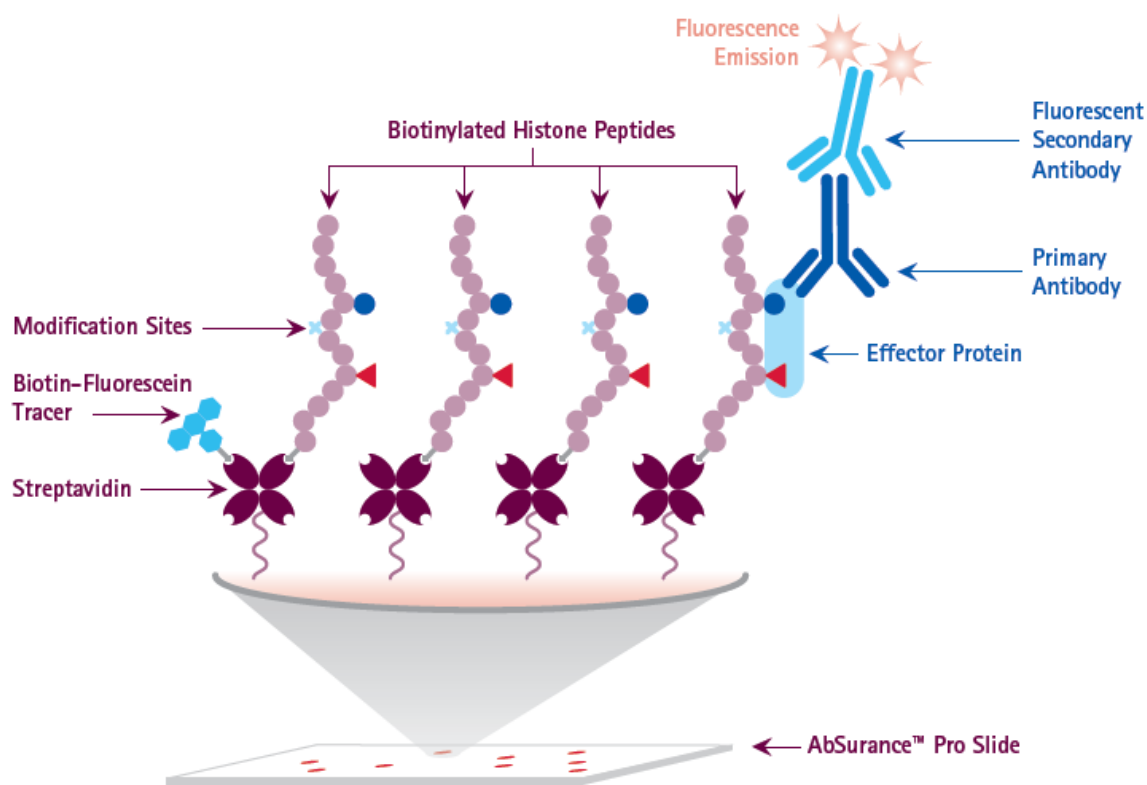
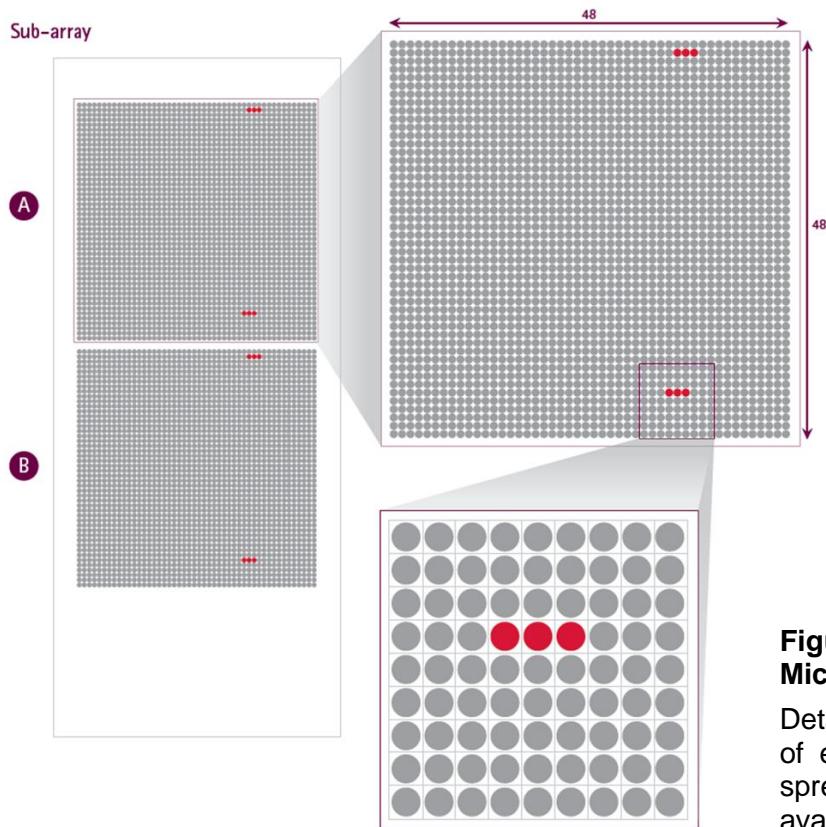
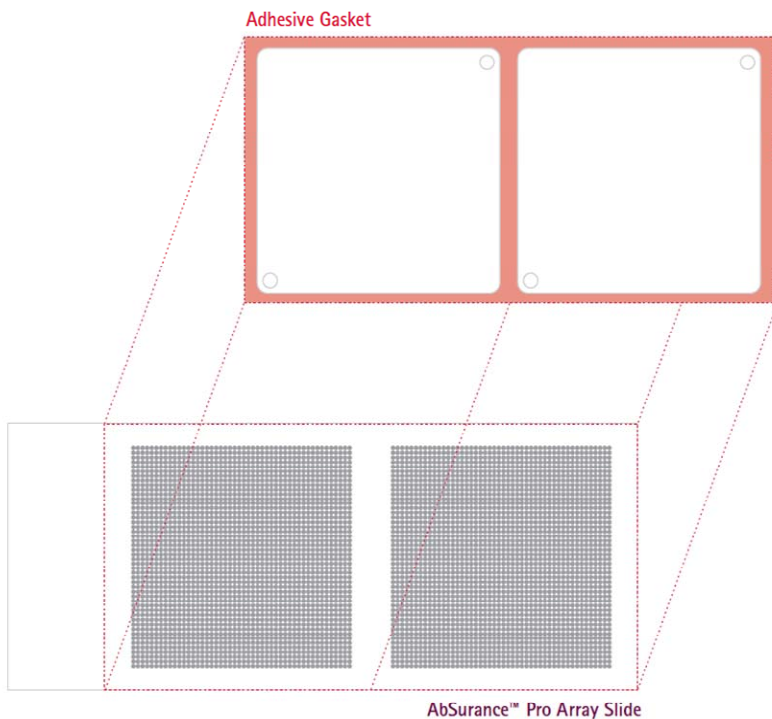

Figure 1. AbSurance Pro Histone Peptide Microarray slide design
Figure 2. AbSurance Pro Histone Peptide Microarray glass slide design.
Figure 3. Gasket Placement on AbSurance Pro Histone Peptide Microarray
The AbSurance™ Pro Histone Peptide Microarray is a microarray containing peptides corresponding to sequences of all four core histone subunits (H2A, H2B, H3, H4) plus select variants). Over 260 histone peptides representing various post-translational modifications are present on the array as unmodified, singly modified as well as multiply modified sequences with up to six modifications per peptide. In addition, multiple peptides representing common protein epitope tags are also printed for use as controls for anti-epitope tag detection scenarios. With over 270 different peptide sequences, AbSurance Pro Microarrays are ideal for protein interaction analysis or histone antibody specificity screening using scanning densitometry or chemiluminescent detection (see figure 1).
The AbSurance Pro Histone Peptide Microarray is printed as two subarrays (see figure 2) with each peptide represented six times per subarray to ensure confident binding analysis and quantitation. This configuration enables analysis of up to two binding experiments per slide when using the provided two chamber adhesive gasket (see figure 3). Using this convenient format, side by side analysis of chromatin readers, writers, and erasers in the absence and presence of small molecules or other protein complex members can be assayed to elucidate substrate specificity and binding characteristics (see Figure 1). Alternatively, this array can be used for comprehensive analysis of histone antibody specificity. For a macroarray analysis of histone antibody specificity using single modification sites and a simple western blot like detection approach, the PVDF-FL membrane—based AbSurance™ Complete macroarray (cat# 16-668) is recommended.
Each AbSurance Pro Histone Peptide Microarray contains 270 different biotinylated peptides (approximately 20 amino acids in length) immobilized on a streptavidin-coated glass microscope slide. To ensure consistent printing and to allow normalization of interaction signals, all AbSurance Pro peptides are produced and spotted with a tracer dye (see figure 1). Details about these peptides, including their sequences can be found in the spreadsheet “AbSurance Pro Peptides.xlsx”. This file and other templates that facilitate data analysis can be downloaded from the AbSurance™ Pro product page on our company website.
Peptides are spotted on two identical sub-arrays (labeled A and B on Figure 2). Each peptide is spotted twice in groups of 3 within each sub-array (red dots on Figure 2). Thus each peptide is featured 12 times in defined positions across a single array slide that carries over 4,000 features. This format also mitigates spotting variability, local binding differences across the slide surface, and allows the user to statistically evaluate the quality of individual peptide: protein interactions.
2. Place an array slide on a clean surface with the slide logo facing up. If using the adhesive gasket, remove the backing from the gasket with forceps. Carefully align the edges of the gasket and glass slide, so both subarrays are separated by the chambers as shown in Figure 3. Please note that the two subarrays may not be visible. Careful placement of the gasket to the far right edge of the array, relative to the logo on the slide will ensure that both arrays are accessible to your solutions. To ensure a tight seal, press
2. Place an array slide on a clean surface with the slide logo facing up. If using the adhesive gasket, remove the backing from the gasket with forceps. Carefully align the edges of the gasket and glass slide, so both subarrays are separated by the chambers as shown in Figure 3. The two subarrays may not be visible. However, careful placement of the gasket to the far right edge of the array, relative to the logo on the slide will ensure that both arrays are accessible to your solutions. To ensure a tight seal, press the edges of the gasket firmly against the glass making sure that the gasket adheres along the entire perimeter of the slide.